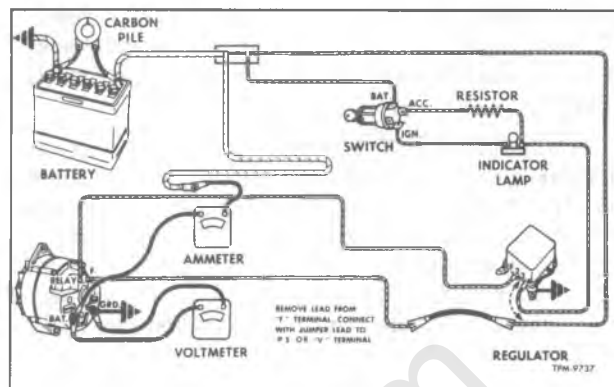

Figure 9—Connections for Testing Generator Output (Except 9000590 Regulator) (Typical)
2. Remove wire from "BAT" terminal on generator, and connect an ammeter between wire and "BAT" terminal on generator (fig. 9).
IMPORTANT: With wiring connected as shown in figure 9, the voltage regulator is taken out of the circuit, and causes field to be energized by full battery voltage. Generator output voltage must be controlled by loading the battery with a carbon pile or turning on vehicle accessories. Do not permit voltage to exceed setting specified for regulator as listed in "Specifications."